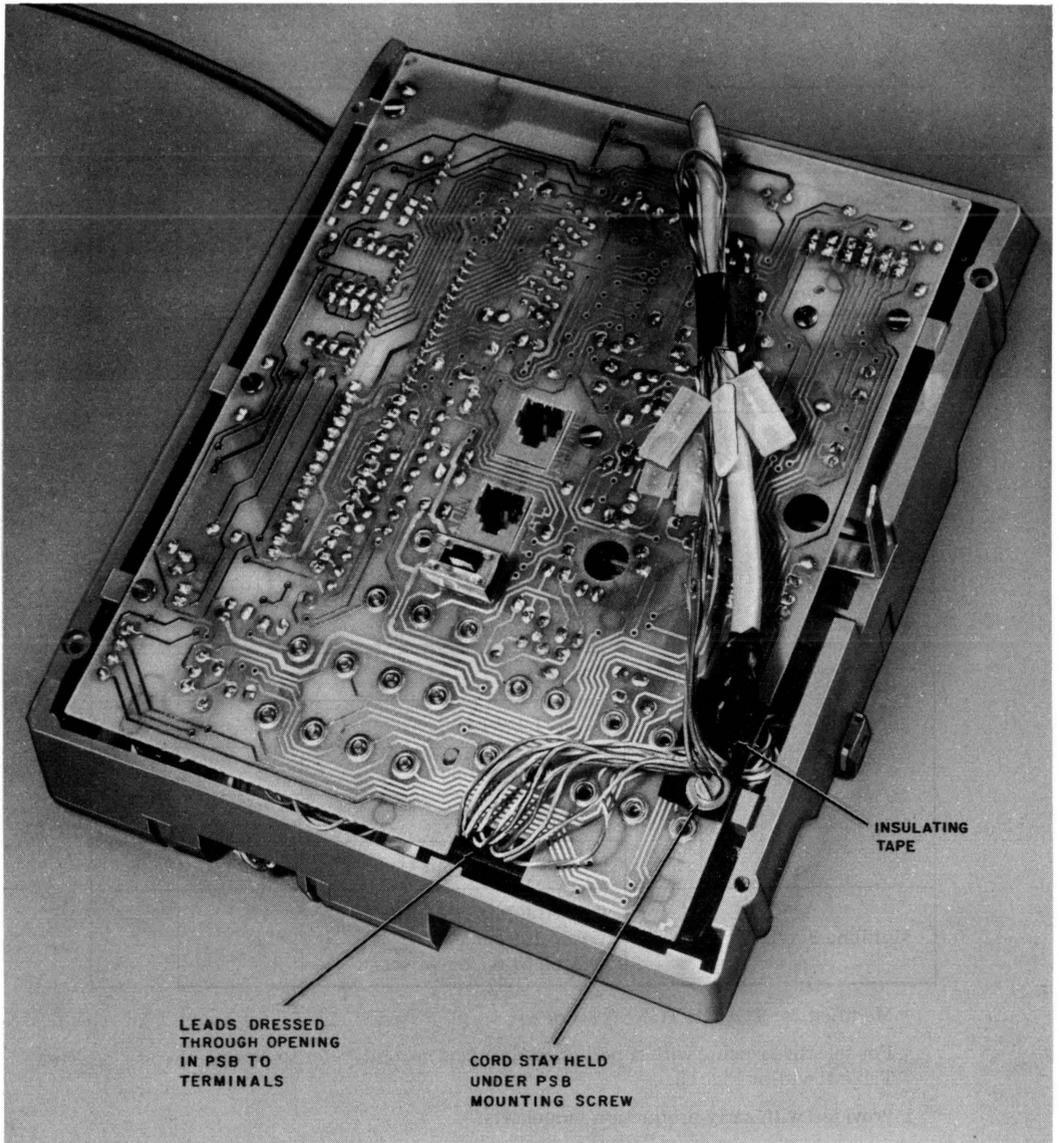

Fig. 12—Bottom of Set With Lower Housing Removed Showing an Adjunct Cord Dressed Across Power Supply Board (PSB)
8.02 Strain relief for optional cordage may be obtained by using any of the six screws used to fasten the power supply board to the bottom of the chassis (Fig. 12). Proper precautions must be taken so that the stay band and hooks do not short any circuit paths. Insulating tape should be placed around the cord and stay band and also applied to the power supply board under the cord (Fig. 12).
8.03 A rectangular cutout at the right front edge of the power supply board provides access for dressing individual spade-tipped leads to the appropriate screw terminals on the power supply circuit board (Fig. 12).